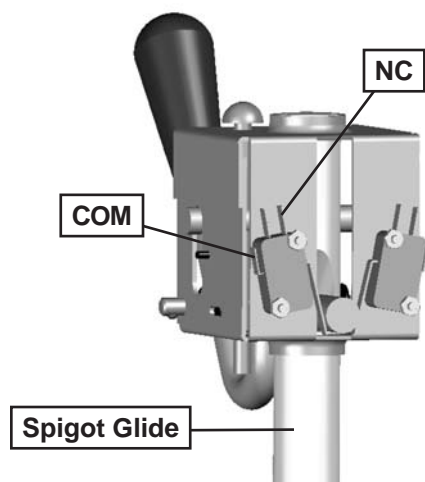

Figure 6-8 Spigot Cam Assembly (Center Spigot)
2. The clicking sound should be within the first 1/2" of the spigot glide movement (Refer to Figure 6-8). If the switch does not close, an adjustment may be necessary.